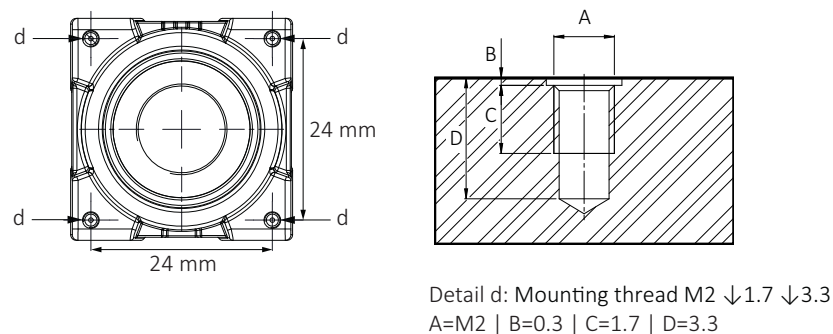

Figure 86: Camera front with mounting threads (d)
1. Mount the camera to the base using suitable M2 screws at 0.17 Nm maximum torque for a thread engagement (C) of 1.7 mm between screws and mounting threads, see Figure 86. For technical drawings, see Standard Alviuim: Dimensions and mass on page 173.